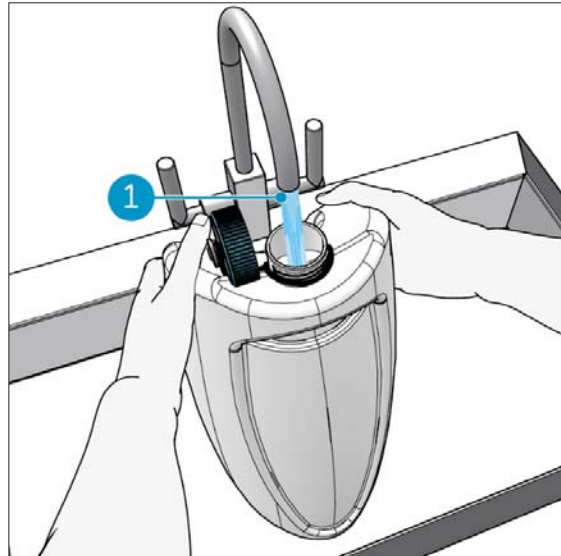

Figure 33
11. Fill the recovery tank with approximately 1 liter of tap water (Figure 33, pos 1).